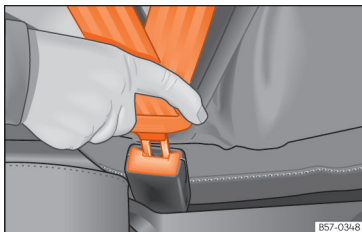

Fig. 10 Insert the latch plate of the seat belt into the buckle.
- Engage the latch plate in the buckle of the corresponding seat »» Fig. 10.